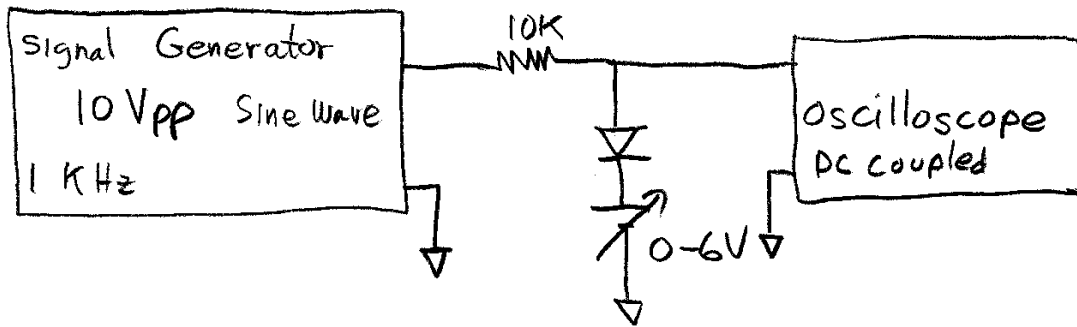

Figure 4: Diode clipper
- 3.1 Build the circuit in Figure 4.